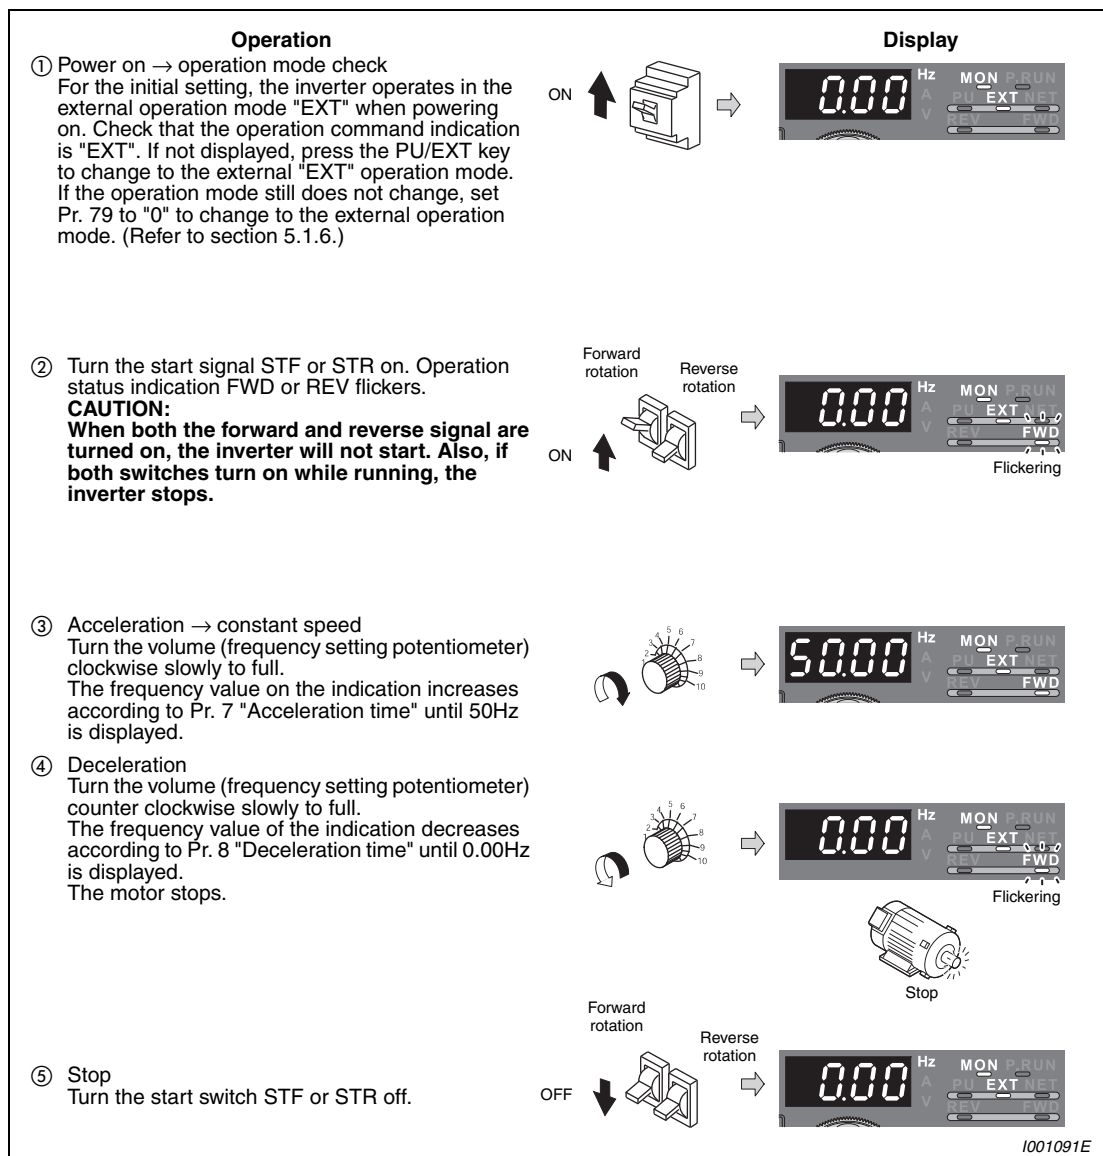

Fig. 5-32: Operate the inverter by using the analog voltage input
① Turn the digital dial until P.125 (Pr. 125) appears.	 →
② Press the SET key to show the currently set value. The initial value "50.00" (50.00Hz) appears.	 →
③ Turn the digital dial to change the set value to "40.00" (40.00Hz).	 →
④ Press the SET key to set.	 →
⑤ Press the MODE key twice to choose monitor/frequency monitor.	 →
⑥ Turn the start switch (STF or STR) on and turn the volume (frequency setting potentiometer) clockwise to full slowly. (Refer to Fig. 5-32, step ② to ⑤).